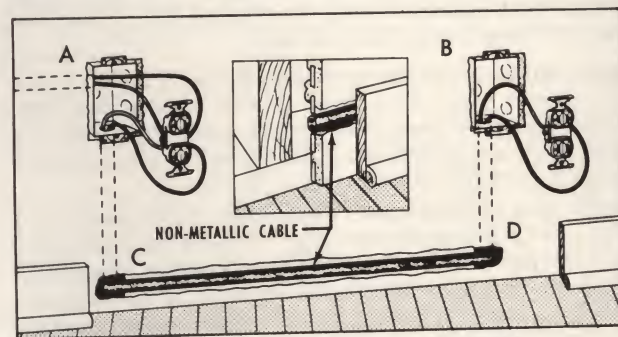

FIG. 67—INSTALLING CABLE BACK OF BASEBOARD
**RUNNING CONCEALED CABLE.** Study Figs. 67, 68 and 69—they show several methods of running cable from one opening to another on the same wall. The best method to follow will depend largely upon the structure of the particular building.
**CABLE BEHIND BASEBOARD.** When wiring from one outlet to another behind baseboard (Fig. 67), first, prepare openings, then remove baseboard. Next, cut small holes in wall (C and D) directly below the outlets. Notch a channel deep enough for a cable in the lath and plaster, or between two wood laths. Next, cut a length of cable to extend between outlets (A) and (B) and set into groove, as shown. Fig. 67 shows cable connected to boxes and wires attached to outlets. When replacing baseboard, avoid driving nails into cable.